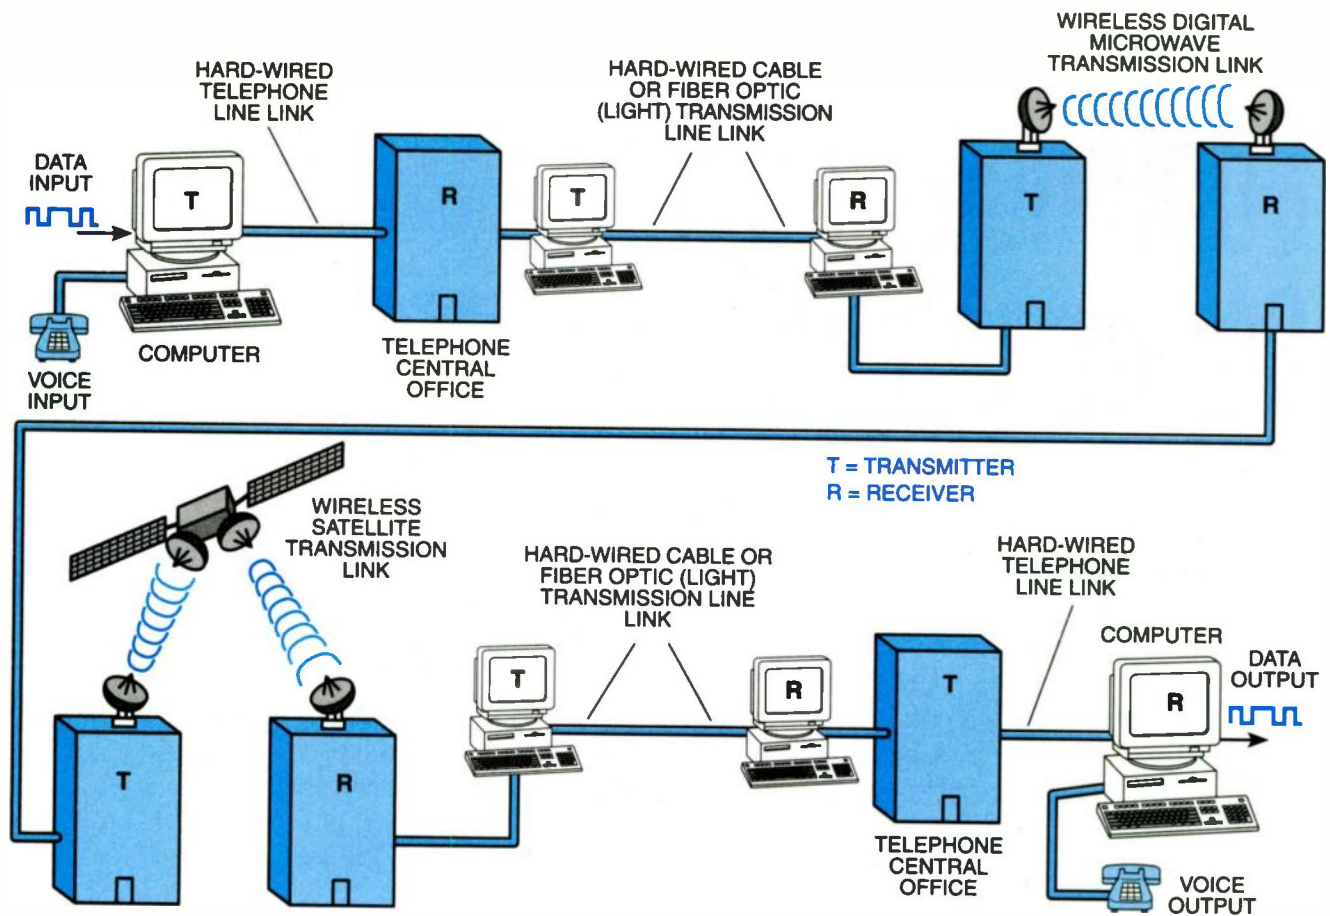

Figure 9-1. Communication system with a variety of transmission links.
*Figure 9-1* shows media that can make up a telephone system transmission link. The first portion of the transmission link from a house or business is usually a hard-wired cable to the central office. Other portions of the link may use coaxial cable, fiber optic cable, wireless microwave transmission, or wireless satellite transmission. Both voice and data can be transmitted through this communication link; however, data transmission is limited by the subsystem that has the narrowest bandwidth, which is usually the hard-wired telephone line.
Figure 9-6a shows a typical use. The modem in each computer is coupled to a standard telephone line using a standard modular connector. The transmission link between the two computers may include any of the methods shown in Figure 9-1. If computer #1 is sending information to computer #2, the modem in computer #1 converts the computer's digital signals into analog signals that can be transmitted over a telephone line. This process is called modulation. The modem in computer #2 demodulates the analog signals and reconstructs the digital information sent by computer #1. If computer #2 is sending the information, the roles of the two modems are reversed.